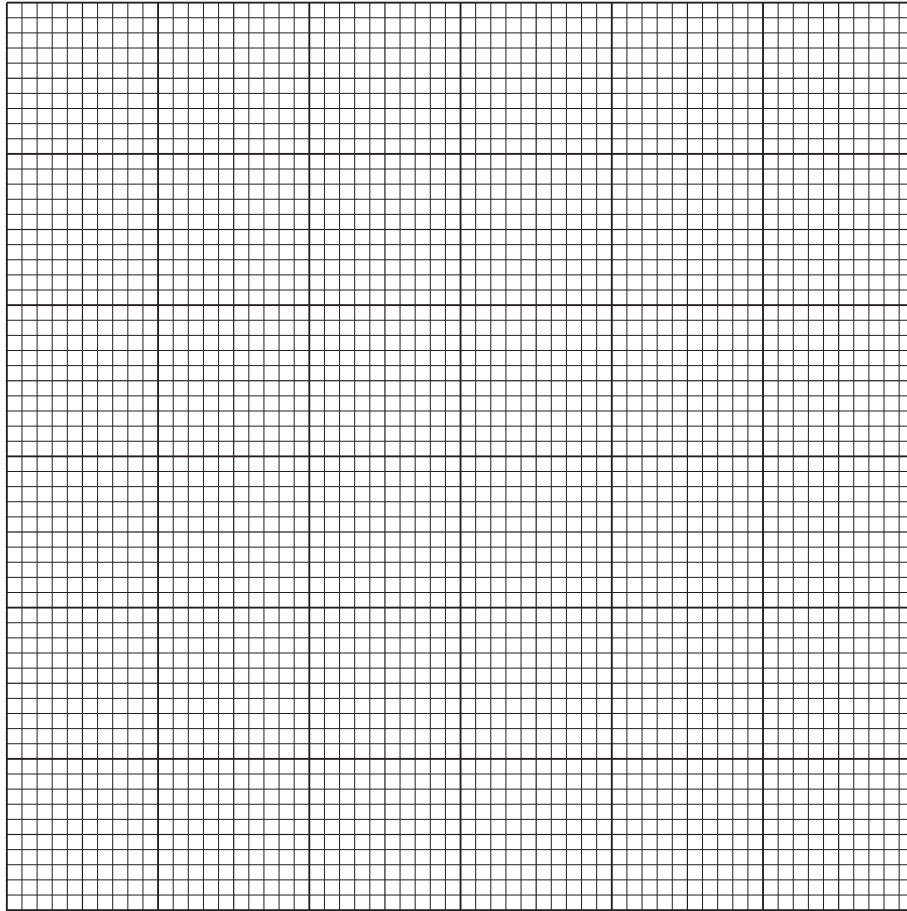

Fig. 1.6
- (i) Plot a graph of the data in Table 1.2 on the grid in Fig. 1.6.